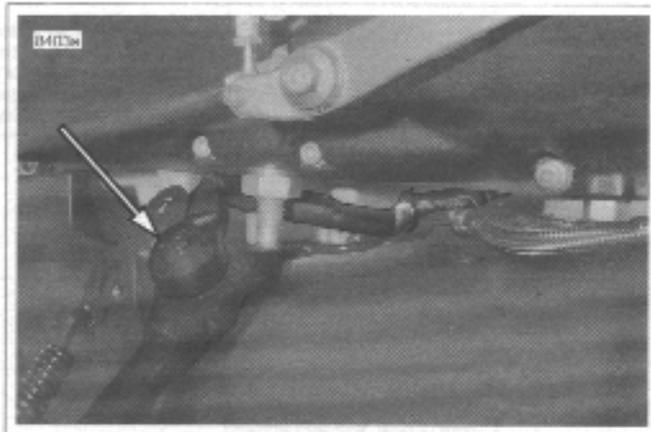

Figure 4-23. Sidestand Switch
- By retracting the sidestand and grounding the relay through the sidestand switch. See Figure 4-23.